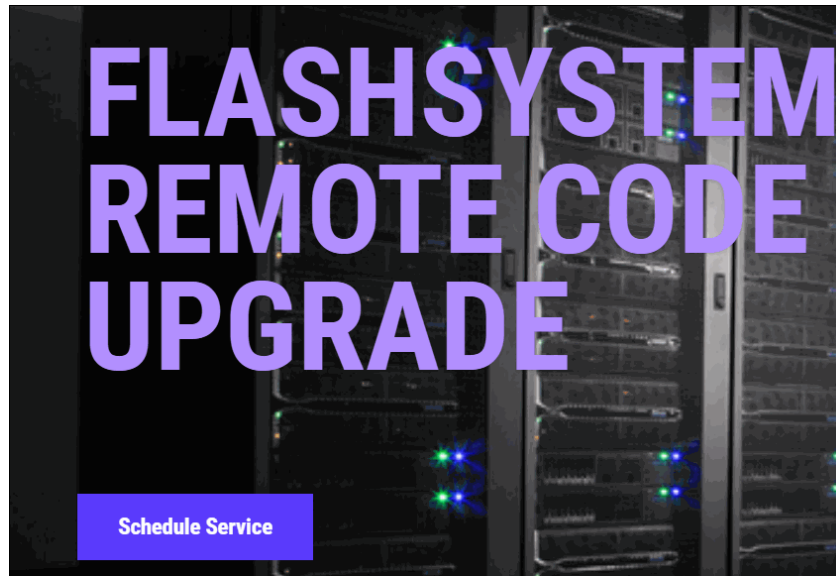

Figure 10-8 IBM FlashSystem RCL Schedule Service page
2. Click **Schedule Service** to start scheduling the service, as shown in Figure 10-8 on page 575.
3. Select the Product type for RCL. Choose your device Model and Type, and click **Select**. The example in Figure 10-8 is an SVC - 2147.